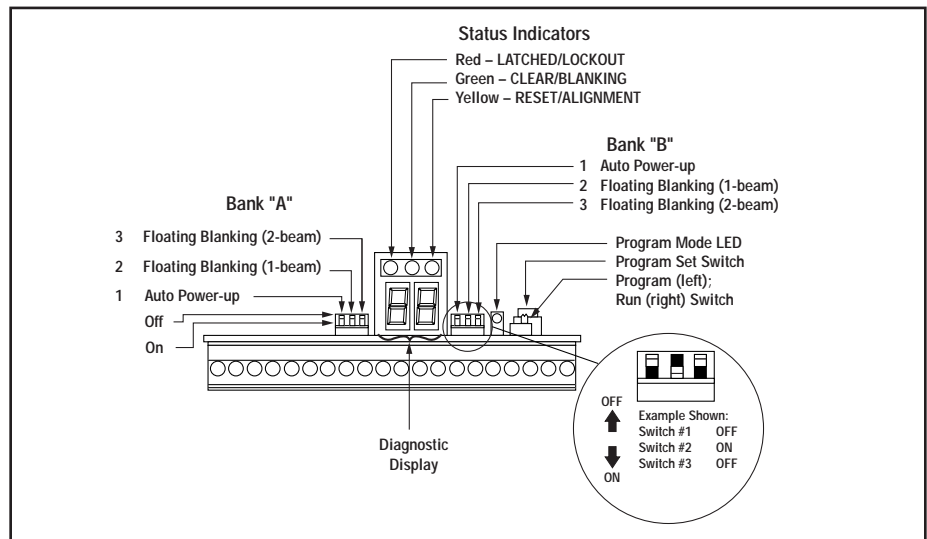

Figure 20. Controller board configuration DIP switches
The MICRO-SCREEN control module should be configured before initial checkout and use. Control module configuration is done at the two banks of DIP switches located along the edge of the controller board (see Figure 20). The controller will automatically sense the length of the emitter and receiver, and set its response time accordingly.
Because it has redundant microprocessors, the controller module has two identical DIP switch banks (bank A and bank B) which must be set identically. Failure to set both banks identically will cause a lockout condition when power is applied to the control box. **Power to the MICRO-SCREEN System must always be OFF when changing DIP switch settings.** Changing DIP switch settings with power ON will cause a lockout condition. See the inset in Figure 20 for DIP switch ON and OFF positions.
Locate the floating blanking (FB) configuration switches in banks A and B (see Figure 20). Set the switches identically at both banks. Be aware of the differences in minimum object sensitivity, penetration factor, and required light screen separation distance between the settings (see sections 2.1 and 3.2.1). Floating blanking causes the MICRO-SCREEN System to ignore objects of up to the sizes listed in the table below.
Locate the Auto Power-up (AP) configuration DIP switches (see Figure 20) in banks A and B. If Auto Power-up is ON and the defined area is clear when power is applied to the MICRO-SCREEN System, the controller will automatically reset after conducting and passing an internal system checkout. If the switches are OFF, this initial reset is manual (via the Key Reset switch). Regardless of the setting of the Auto Power-up switches, a Key Reset is always necessary to recover from an internal lockout or a latch condition. To select Auto Power-up, remove the protective coating on both switches and push them to the ON position. The switches must be set identically at both banks A and B.
Fixed blanking (if used) is programmed during the initial checkout procedure using the Program switches located on the controller board (as shown in Figure 20). See Section 3.5.5 for complete information.
- 4) **Fixed blanking (control module model USDINT-2L2 only).** The fixed blanking feature may be programmed if beams are blocked by one or more fixed objects. Fixed blanking requires an emitter/receiver pair with 16 or more beams (see page 59). **Fixed blanking is limited to 30% of the total number of beams up to a maximum of 12 beams (see chart below).** Contact factory Applications Department if your application requires fixed blanking of a greater number of beams. Programming of fixed blanking involves a simple “teaching” process; it is accomplished using the Diagnostic Display and the configuration (program) switches located on the controller board (Figure 20).
- 2) Make sure that Auto Power-up and Floating Blanking configuration switches (also located on the controller board, Figure 20) are all turned to OFF.
- 3) Make sure that the Program/Run switch (Figure 20) is in the RUN (right) position.
Move the Program/Run switch on the controller to the PROGRAM (left) position (Figure 20). The Program Mode LED will flash and the Diagnostic Display will indicate the total number of beams blocked.
When satisfied that the number of beams blocked is stable, push the Program switch push button on the controller (Figure 20) **for 1/2 to 2 seconds** and release. If the programming is accepted, the Program Mode LED will stop flashing and glow steadily. Programming will be rejected if the Program/Run switch is held depressed too long, or not long enough.